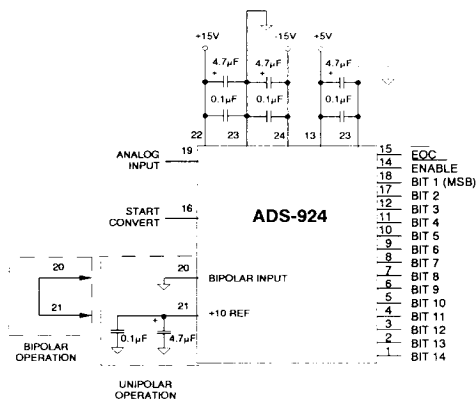

Figure 3. Typical Input Connections
- Applications which are unaffected by endpoint errors or remove them through software will use the typical connections shown in Figure 3. Remove system errors or adjust the small initial errors of the ADS-924 to zero using the optional external circuitry shown in Figure 4. The external adjustment circuit has no effect on the throughput rate.
- Connect the converter per Figure 3, Figure 4, and Table 2 for the appropriate full-scale range (FSR). Apply a pulse of 200 nanoseconds minimum to the START CONVERT input (pin 16) at a rate of 250 KHz. This rate is chosen to reduce flicker if LED's are used on the outputs for calibration purposes.